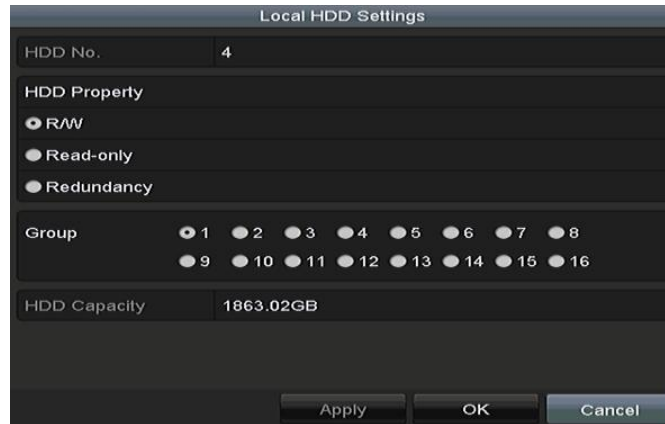

Figure 13. 15 Set HDD Property
2. Select HDD from the list and click the  icon to enter the Local HDD Settings interface, as shown in Figure 13. 15.